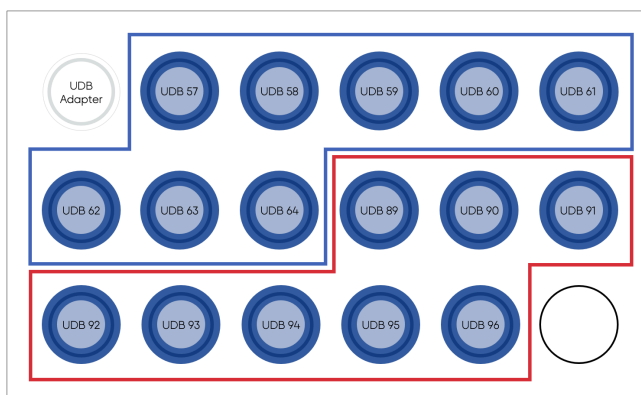

Figure 4 The UDB Adapter and UDB PCR Primer Mix layout
- UDB PCR Primer Mix-57 to UDB PCR Primer Mix-64 (inside the blue box in Figure 4).
- UDB PCR Primer Mix-89 to UDB PCR Primer Mix-97 (inside the red box in Figure 4).